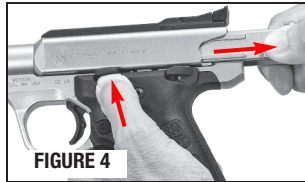

FIGURE 4
- Point the muzzle in a safe direction, grasp the serrated sides of the bolt from the rear with the thumb and fingers (FIGURE 4) and briskly draw the bolt fully rearward to extract any cartridge from the barrel chamber and clear it from the pistol. Do not obstruct the ejection port because doing so can interfere with ejection of a cartridge.
- Lock the bolt in the open position, by allowing the bolt to move slightly forward from the rear-most position while pressing upward on the bolt stop (FIGURE 4).